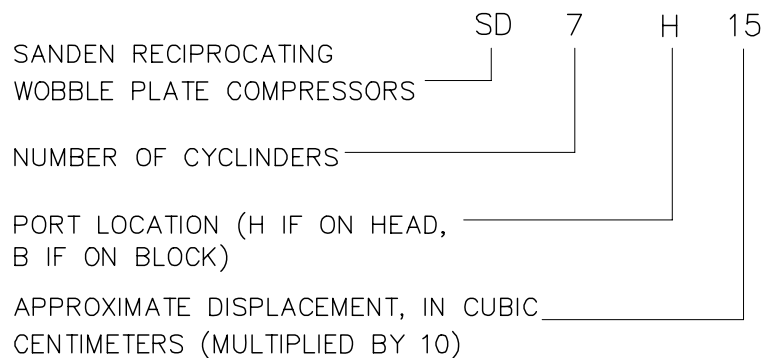

Figure 8 Compressor Model Identification
26. **Compressor Identification.** Figure 8 explains the model identification for R134a compressors.